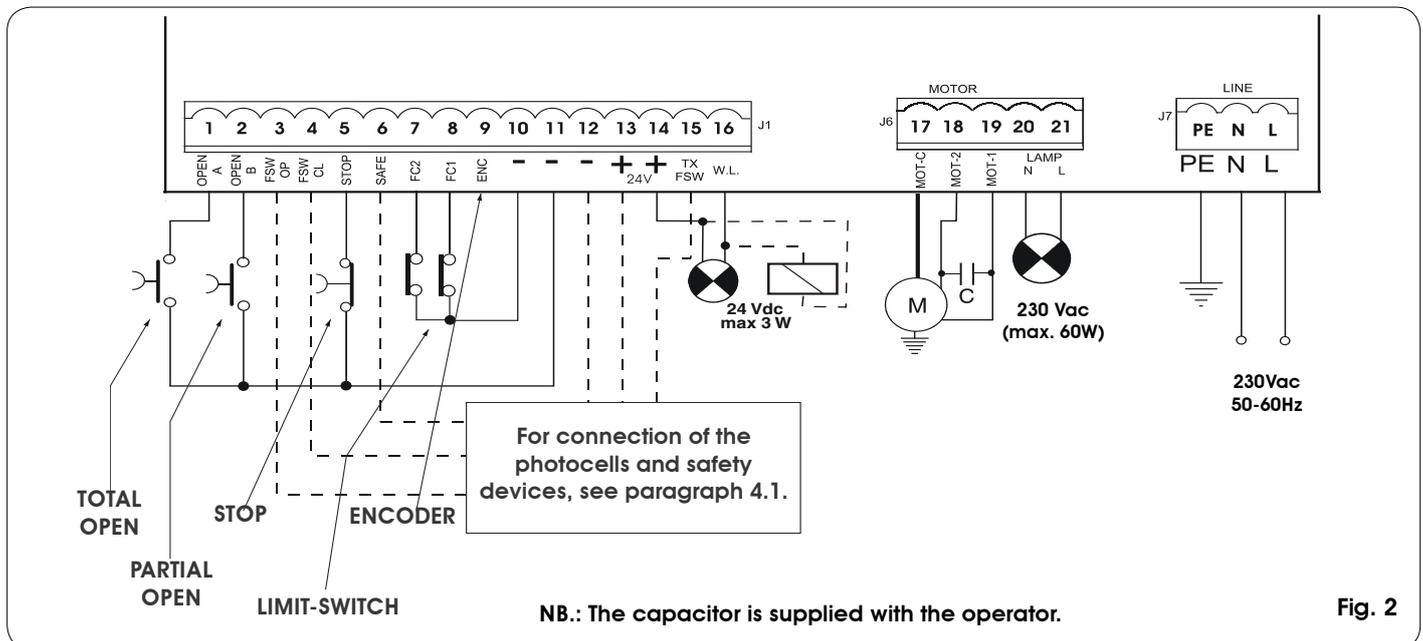

Fig. 2
4.3 J6 TERMINAL BOARD - MOTORS AND FLASHING LAMP (FIG. 2) 6
- Connect the earth cable to the appropriate terminal on the J7 connector of the equipment (see fig.2).
4.2 Terminal board - Power supply (fig. 2)
4.3 J6 Terminal board - Motors and flashing lamp (fig. 2)
4.4 J1 Terminal board - Accessories (fig. 2)
FC1 / FC2 - Opening and closing limit-switch contacts (terminals 7 and 8): The purpose of the opening and closing limit-switches is to establish the reference point for the stop, or for start of deceleration (pre- and post-limit switch), or for operator braking (see advanced programming in Chpt 5.2). The limit-switch device must have an NC contact for connection between the input (FC1 or FC2) and the equipment's terminal (see Fig. 2).